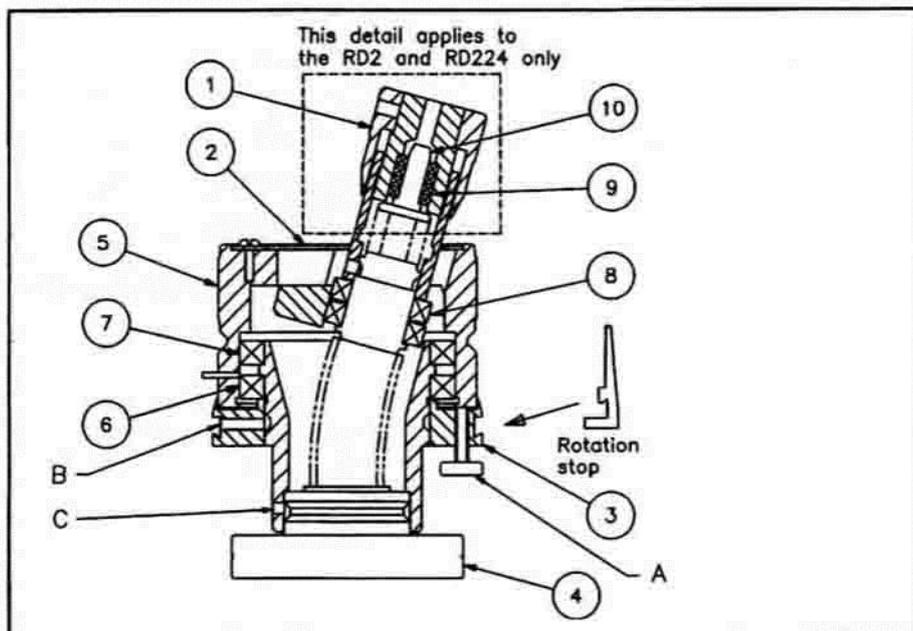

Figure 6 -
(Please refer to figure 6).
- b. Slacken the 3 radial set screws (marked C in figure 6) by two complete turns and gently withdraw the handwheel assembly from the flange unit.
- the wobble bearing retainer set screw on the RD 1, RD2 and RD224 drives. This must only be tightened sufficiently to grip and minimise the radial clearance in the wobble bearings (item 8 in figure 6) which are located under the cover plate. This should only be done when the rotary drive is under vacuum. Do not over tighten.
The bearings within the vacuum enclosure are treated with a solid film lubricant which is sealed in for life. The bearings that are external to the vacuum enclosure can be lubricated in-situ as follows: Numbers in () refer to the items indicated in figure 6.